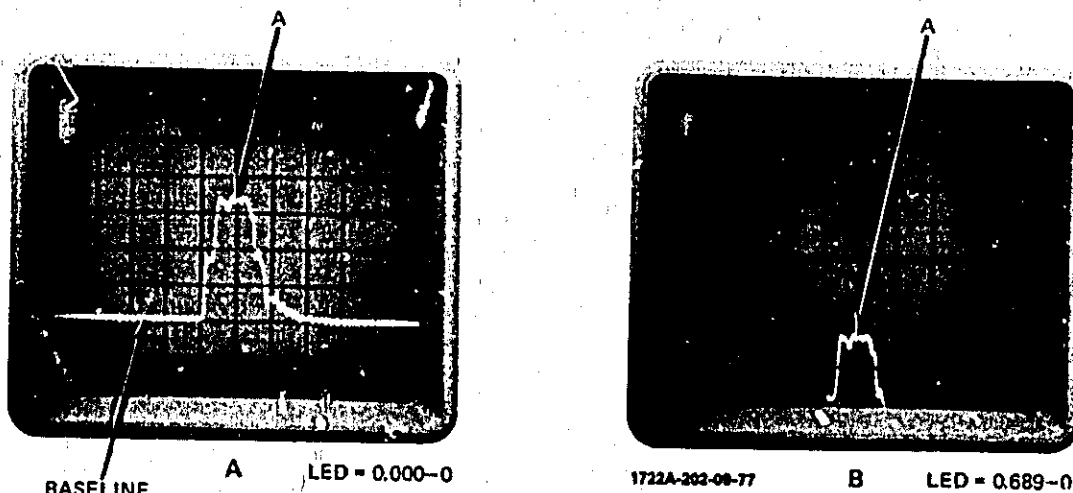

Figure 3-5. Instantaneous DC Voltage Measurements
- Using channel A POSITION control, set top, bottom, or reference point of waveform on convenient horizontal graticule line (A in figure 3-5).
i. Using channel A POSITION control, set second point of interest on horizontal graticule line selected in step g (B in figure 3-5).